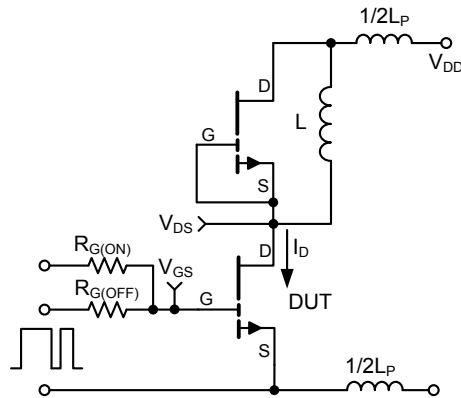

Figure 13: GS66508B Switching Loss Test Circuit
(7) See Figure 13 for switching test circuit